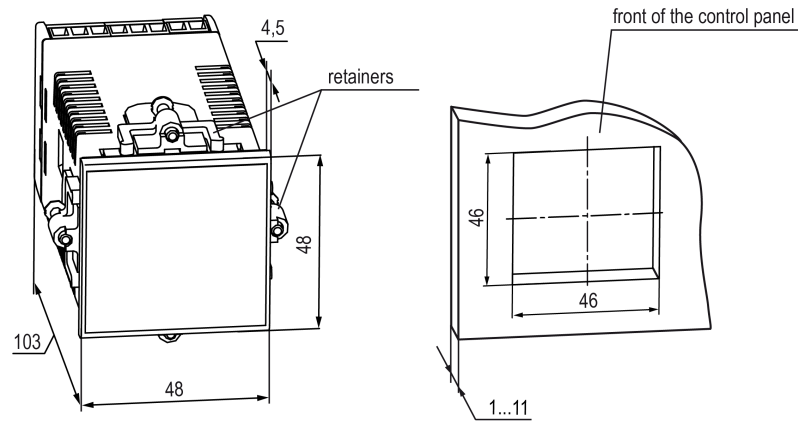

Fig. 4.8 Dimensions of P5 enclosure and mounting cutout
1. Using the supplied cutout template, prepare the mounting cutout in the control panel where the device should be mounted (see Fig. 4.8).